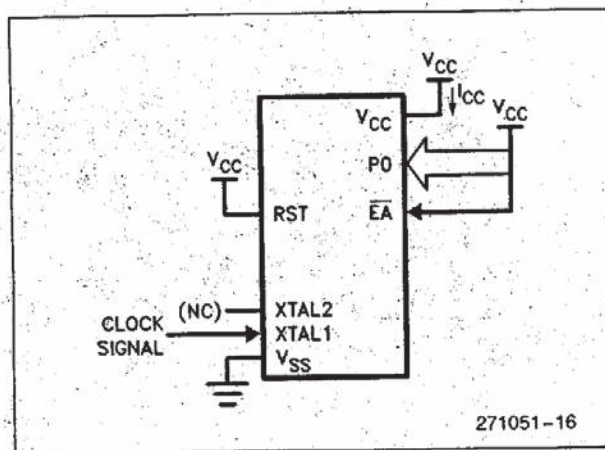

Figure 5. I_{CC} Test Condition, Active Mode.
5. I_{CC} is measured with all output pins disconnected; XTAL1 driven with $TCLCH, TCHCL = 5\text{ns}$, $V_{IL} = V_{SS} + .5\text{V}$, $V_{IH} = V_{CC} - 0.5\text{V}$ measured with $\overline{\text{EA}}$ and RST connected to V_{CC} . "Idle" current is measured with $\overline{\text{EA}}$ and RST connected to V_{SS} . "Power Down" current is measured with XTAL1, $\overline{\text{EA}}$ and RST connected to V_{SS} . (See Figures 5 through 8 for a graphic representation of the I_{CC} test conditions.